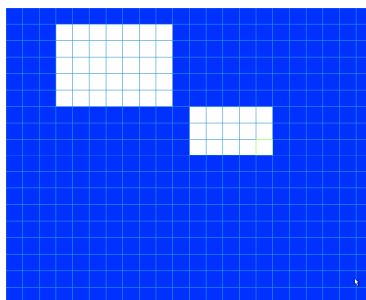

Figure 4-26
- Region: Click select button, the interface is shown as in Figure 4-26. Here you can set motion detection zone. There are 396(PAL)/330(NTSC) small zones. Blue zone is the motion detection zone. White zone is the disarmed zone. System can only detect motion detect signal from the arm region. You can click Fn button to switch between the arm mode and disarm mode. In arm mode, you can click the direction buttons to move the green rectangle to set the motion detection zone. After you completed the setup, please click ENTER button to exit current setup. Do remember click save button to save current setup. If you click ESC button to exit the region setup interface system will not save your zone setup.
In Figure 4-26, you can left click mouse and then drag it to set a region for motion detection.